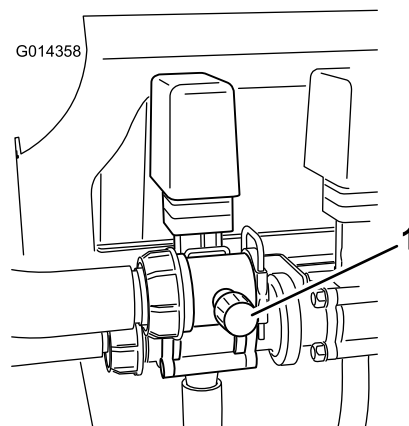

Figure 24
8. Adjust the agitation bypass valve (Figure 24) on the backside of the agitation valve until the pressure reading on the gauge is 100 psi.